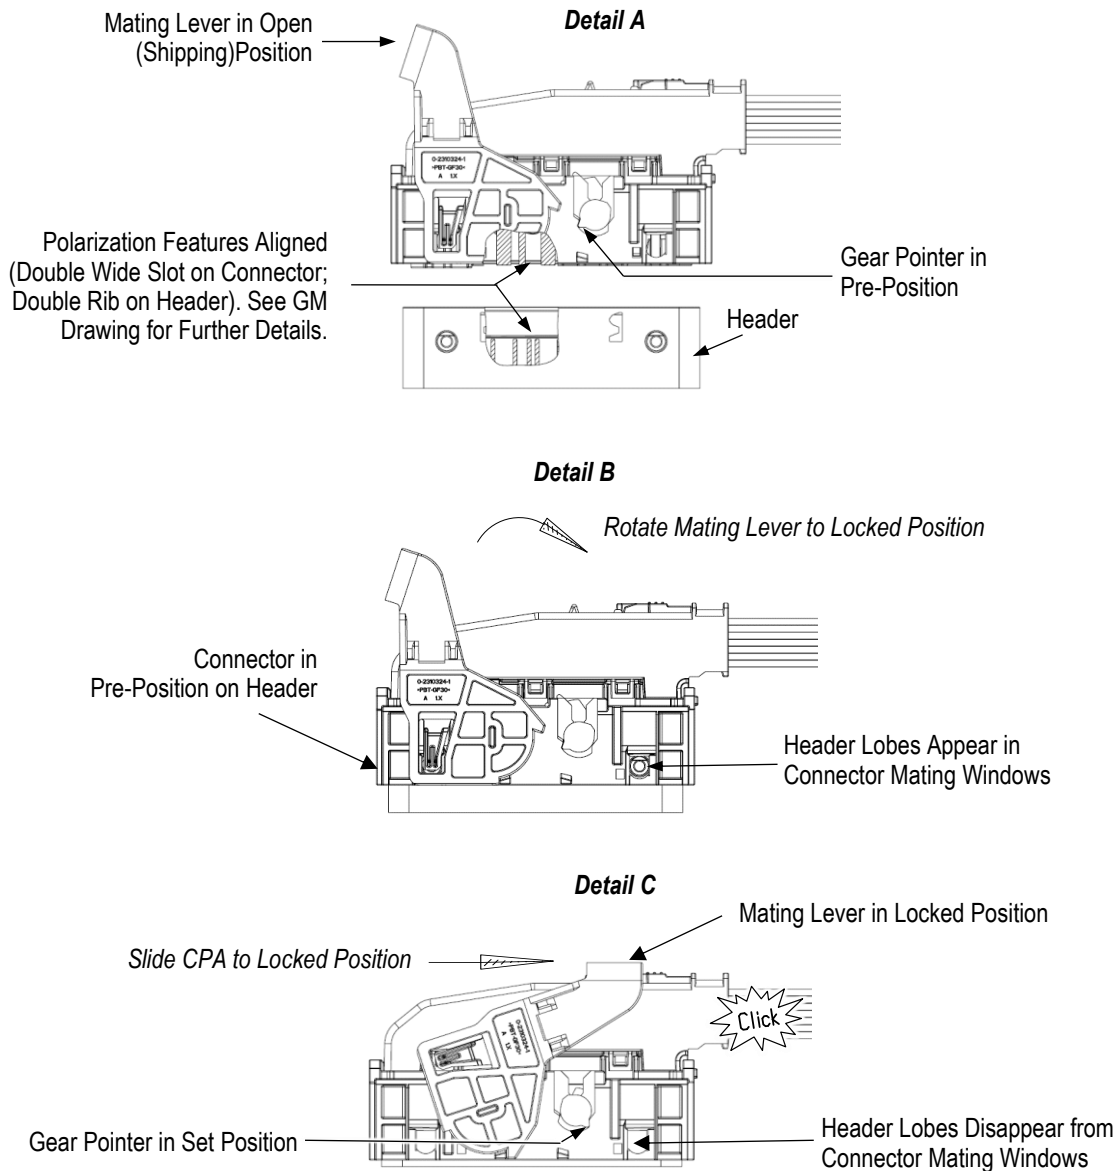

Figure 5
2. Figure 5, Detail A. The gear pointer should be in pre-position.
4. Figure 5, Detail B.
6. Figure 5, Detail C.
3. Figure 5, Detail A).